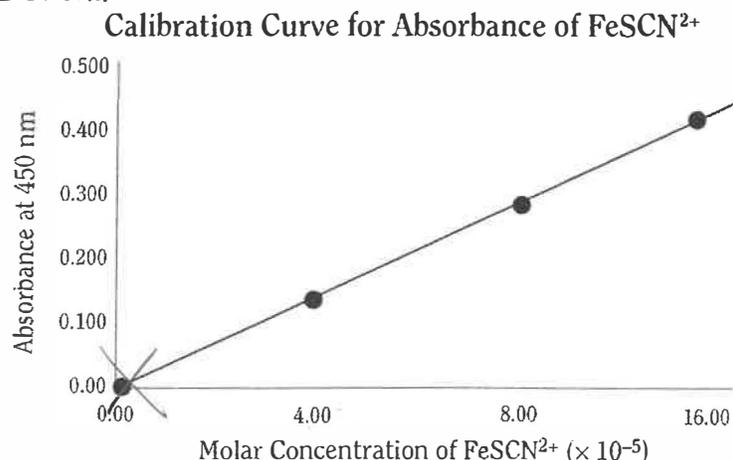

Figure 1. Sample Graph of Absorbance versus Concentration of FeSCN^{2+}
1. On graph paper, plot molar concentration of FeSCN^{2+} versus absorbance as shown in Figure 1, and draw the best-fitting straight line through the data points. ~~Include the origin (zero absorbance for zero concentration) as a valid point.~~ IF THE DATA ARE OF GOOD QUALITY IT WILL NATURALLY PASS NEAR THE ORIGIN